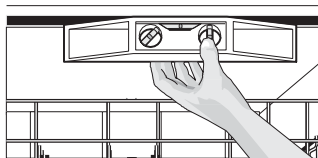

Figure 5a
9. Check that dishwasher is level from side to side by placing a level against the top front section of the tub. See Figure 5a.